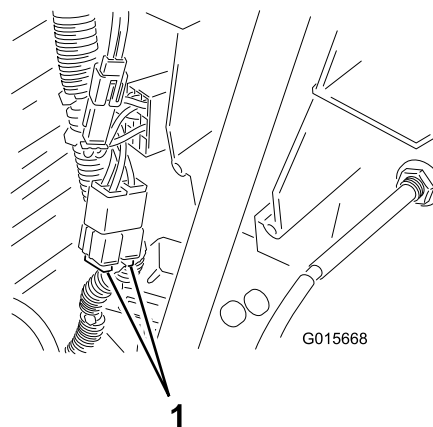

Figure 30
1. Lift up the hood and locate the fuse below the fuel tank (Figure 30).